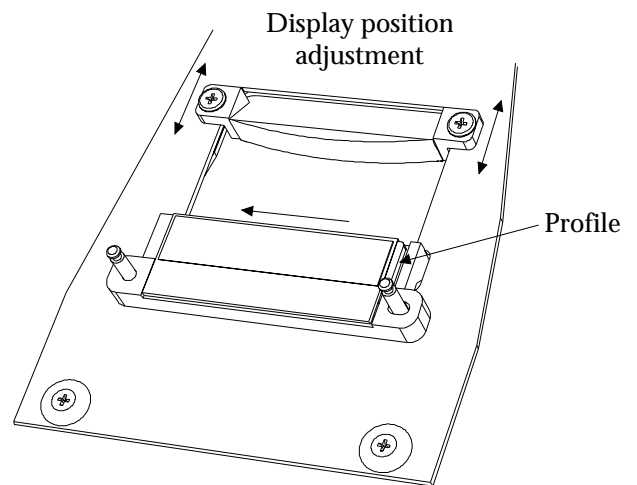

Fig. 1
Place the LCD (5) in position and push it to the left according to fig. 1.